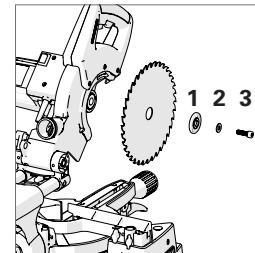

Fig. 20
Install the outer flange (1) (flat face onto the machine), washer (2) and arbor screw (3). (**Fig. 20**)